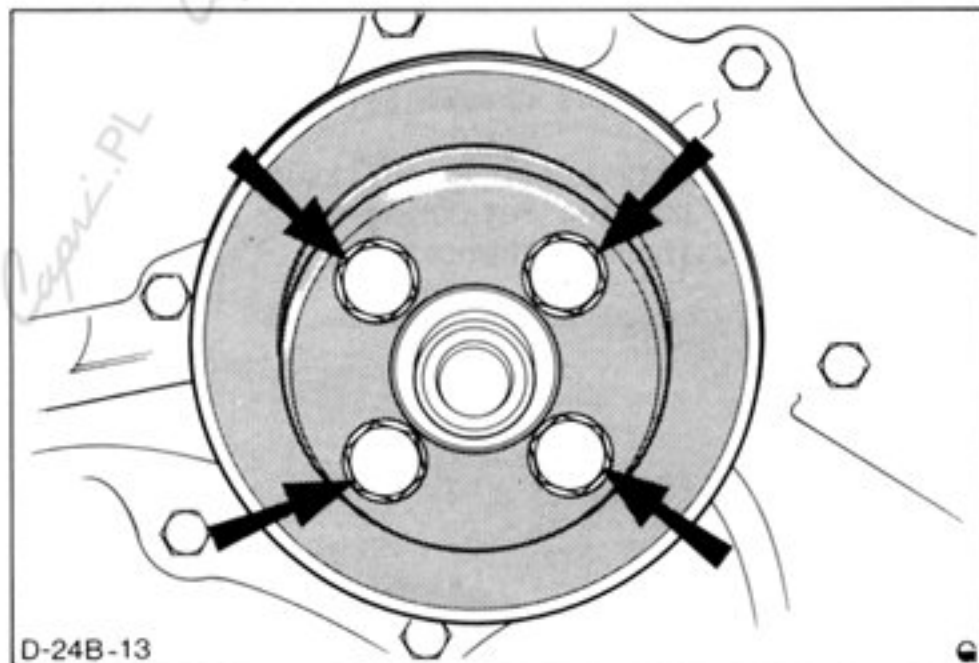

Fig.27. Fan pulley retaining bolts.
13. Refit fan pulley and secure with four bolts, Fig.27. Tighten bolts to specified torque, refer to Technical Data.